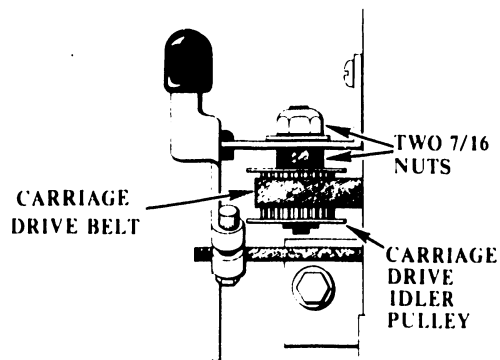

FIGURE 6-24 REMOVAL OF CARRIAGE DRIVE BELT PULLEY
- 6) Remove carriage drive belt from servo drive gear (See Figure 6-24).